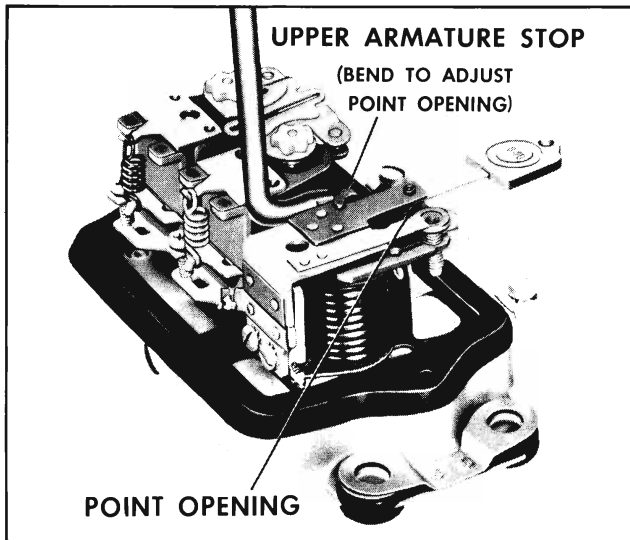

Fig. 11-51 Adjusting Cut-out Relay Point Opening
2. Check point opening and adjust to .020" by bending upper armature stop (Fig. 11-51).